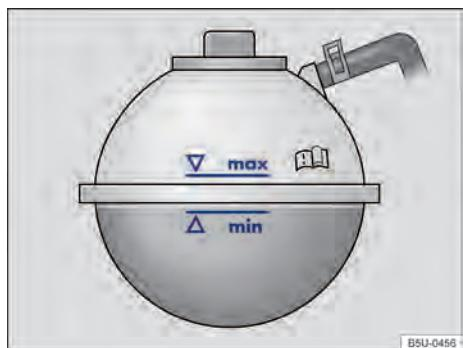

Fig. 190 On the engine compartment: marking on the coolant expansion tank.
- Check the coolant level at the side marking of the expansion tank when the engine is cold → Fig. 190.
- Refill only **new** coolant according to Volkswagen specifications (→ page 209) → ①.
- The coolant level must be between the marks on the expansion tank → Fig. 190. **Do not fill up over the top line of the marked area "max" → ①!**
- If in an emergency you do not have access to the coolant of the required specification, do not use any other coolant additive! Instead, top off with **distilled** → ① only. Then add the correct proportion of coolant additive → page 209 must be re-established as soon as possible.
- Do not fill coolant above the top of the marked area "max" → Fig. 190. Otherwise the excess coolant will be pressed out of the cooling system when the engine is hot and could cause damage.